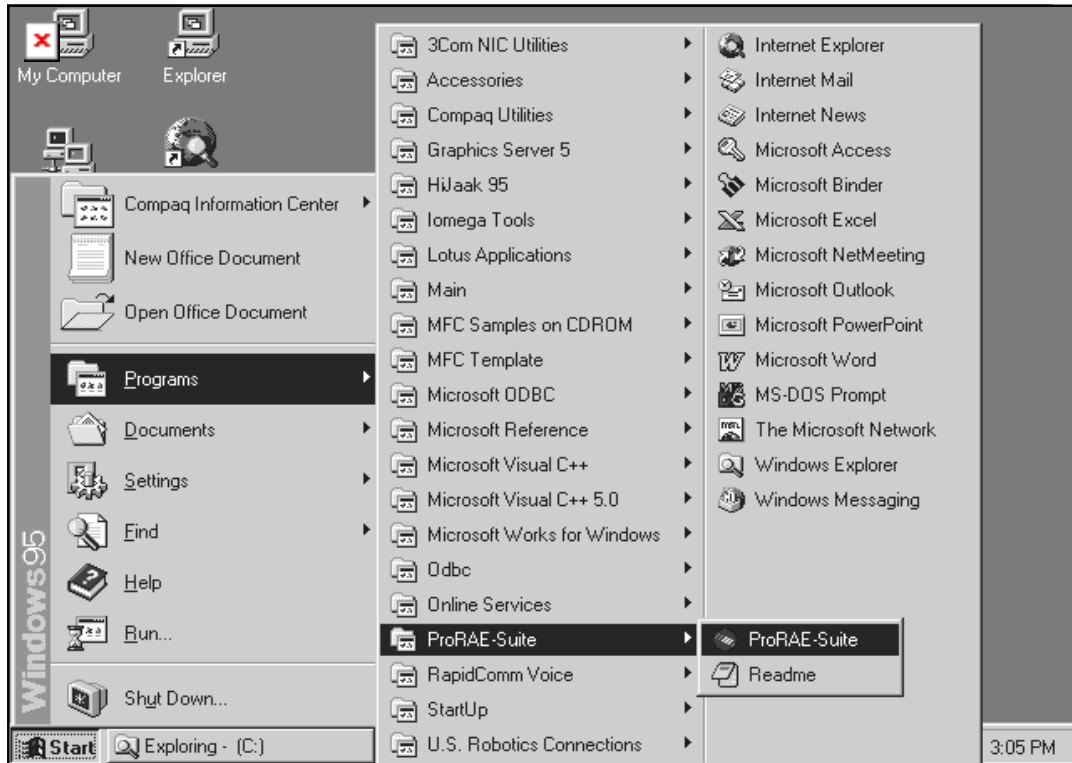

Figure 5-2 Start Menu
**ProRAE-Suite** and **Readme**, as shown in Figure 5-2. Click the **ProRAE-Suite** submenu item to start the ProRAE-Suite software.